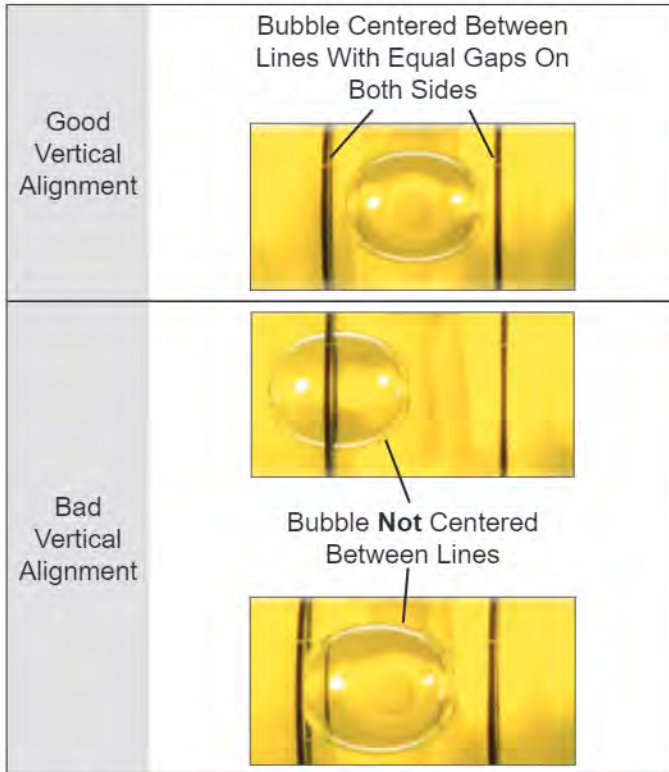

FIGURE 26 - VERTICAL ALIGNMENT INDICATION
5. Check vertical alignment one more time after tightening the four vertical position screws. For proper bubble position refer to Figure 26.